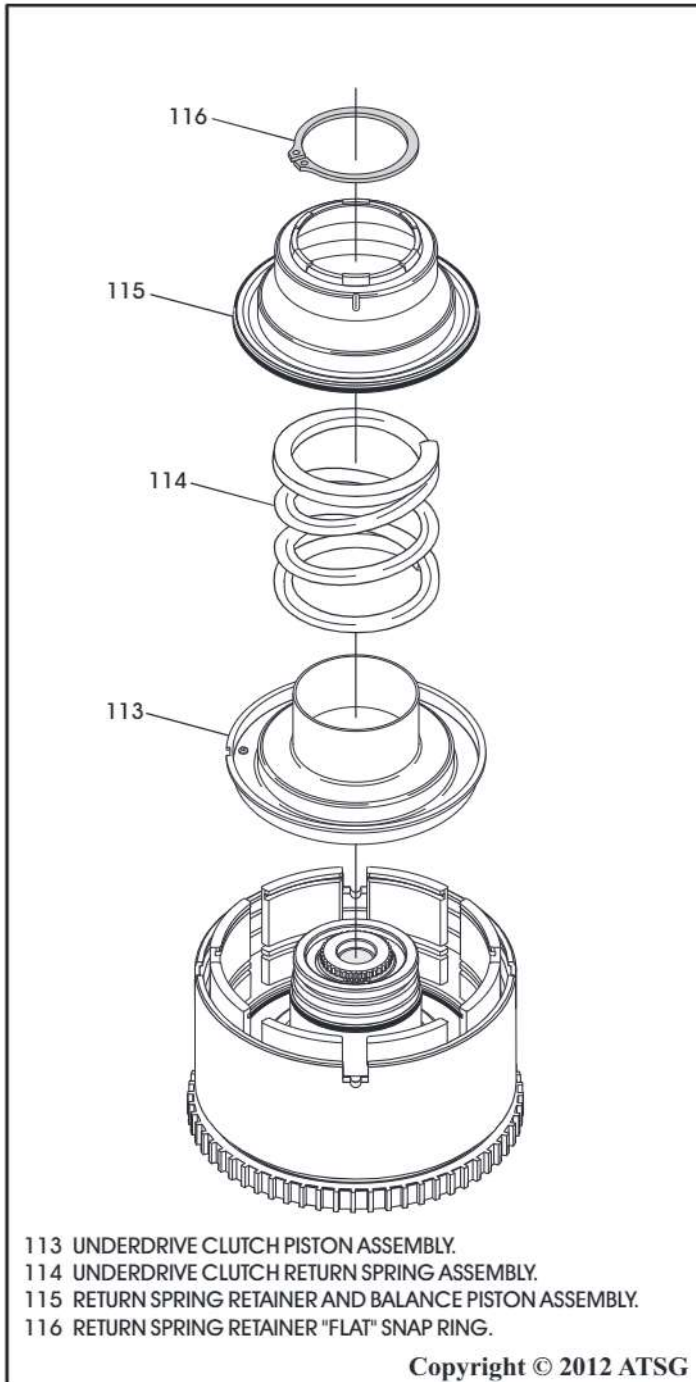

Figure 184
18. Lubricate the seal surfaces of underdrive clutch piston and install into the input clutch retainer, as shown in Figure 184.
19. Install the underdrive clutch piston return spring, as shown in Figure 184.
20. Lubricate the bonded seal of the return spring retainer/balance piston and install, as shown in Figure 184.
21. Using a suitable shop press, compress the return spring assembly and install the flat snap ring into the groove, as shown in Figure 184.